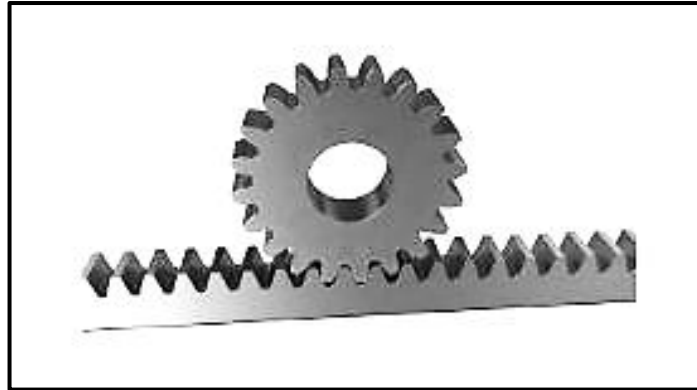

FIGURE 4.13
4.13 Identify the type of gear system in FIGURE 4.13 below.